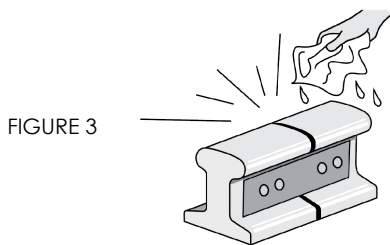

FIGURE 3
1. Clean the rail surface and bond terminals. Scrape off excess dirt and grease, and wipe away any remaining residue using a clean rag saturated with a railroad approved solvent. See Figure 3. The rail must be dry prior to welding!